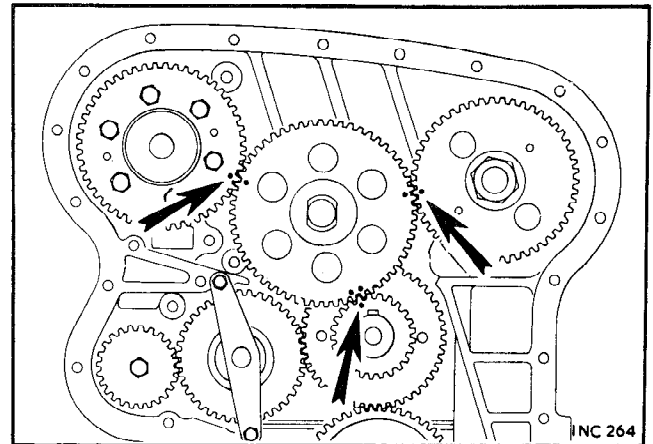

Fig. 1
16. Refit the crankshaft nut and rotate the crankshaft until the timing marks on the timing gears are in the positions shown in Fig. 1. Remove the crankshaft nut.
that the timing gears are positioned as shown in Fig. 1.